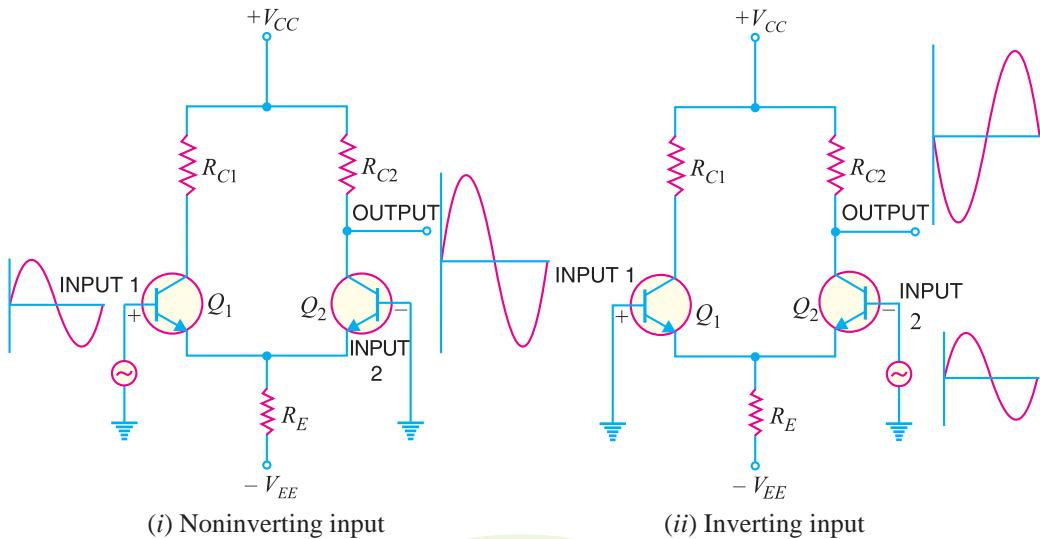

Fig. 25.7
- (b) When only one output terminal is available, the phase of the output of single-ended input DA depends on which input receives the input signal. This is illustrated in Fig. 25.7.
When signal applied to the input of *DA* produces no phase shift in the output, it is called ***non-inverting input*** [See Fig. 25.7 (i)]. In other words, for noninverting input, the output signal is in phase with the input signal. When the signal applied to the input of *DA* produces  $180^\circ$  phase shift, it is called ***inverting input*** [See Fig. 25.7 (ii)]. In other words, for inverting input, the output signal is  $180^\circ$  out of phase with the input signal. Since inverting input provides  $180^\circ$  phase shift, it is often identified with  $-$ sign. The noninverting input is then represented by  $+$ \* sign. It may be noted that terms noninverting input and inverting input are meaningful when only one output terminal of *DA* is available.
- \* Note that in Fig. 25.7, the noninverting input terminal is given the +ve sign while the inverting input terminal is given the -ve sign.